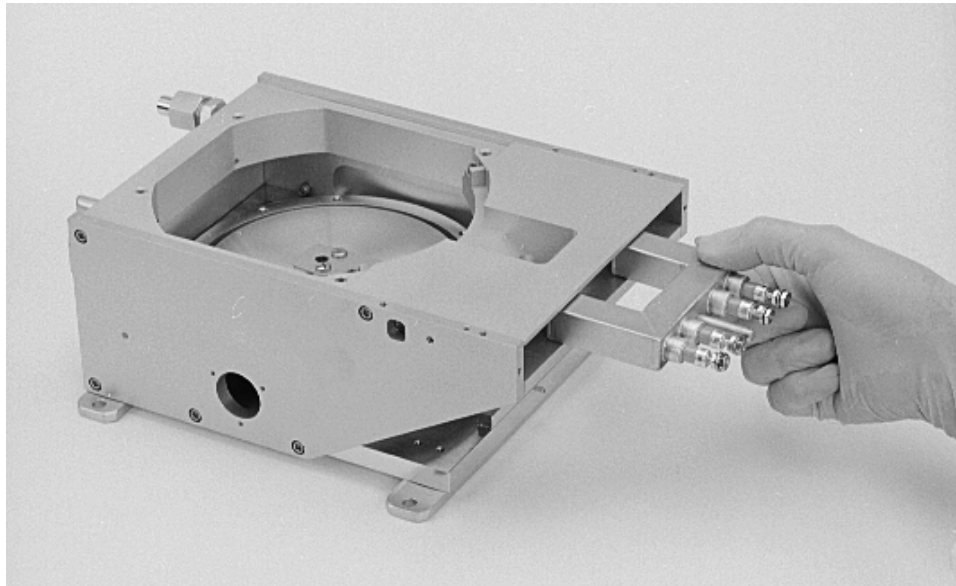

Figure 6-13. Removing the coil assembly
Step 12: Pull the coil assembly straight out of the coil housing, as shown in Figure 6-13.